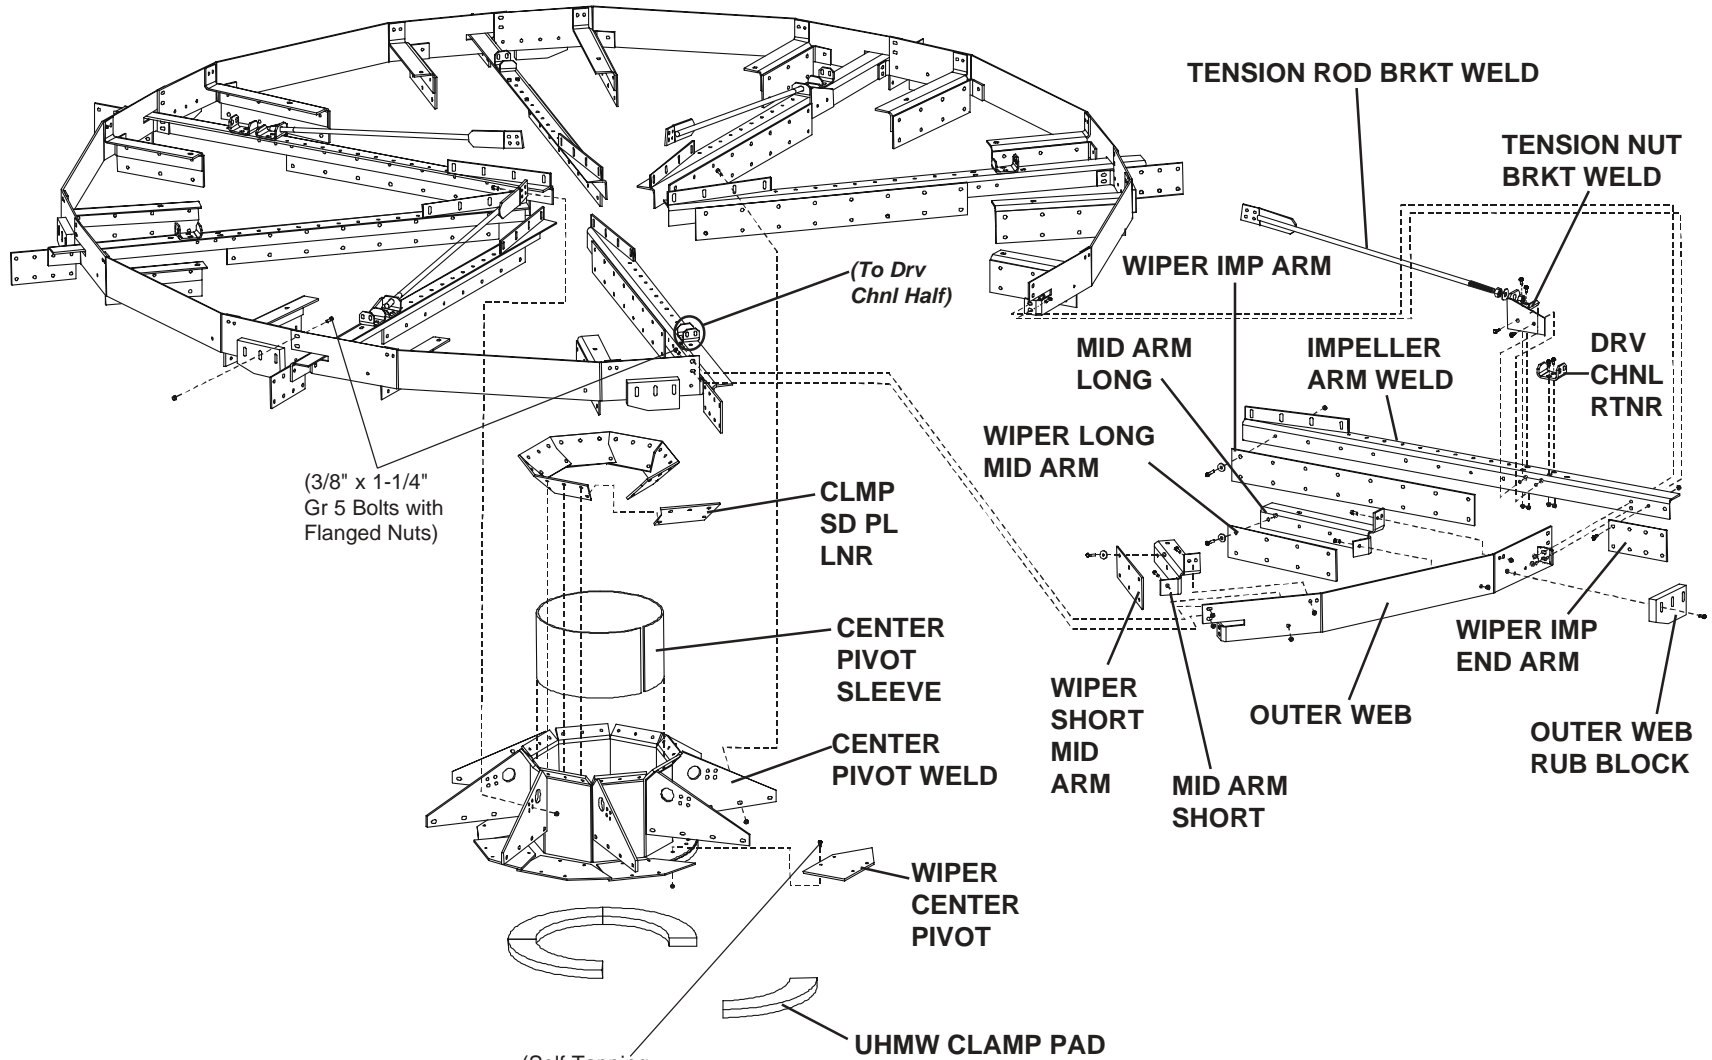

Fig. 9-4
5. The preassembled **IMPELLER ARM WELDMENTS** now fasten to the Center Pivot using the 3/8" x 1-1/2" Gr. 8 Bolts and Flanged Nuts. Provide temporary support for the outer edge of each arm so it remains level during installation. The support should be placed above the Screen Deck Structure, and not on the Screen alone. **The arms with the Tension Nut Brackets should be spaced evenly around the Impeller.** Do not tighten any of the Impeller Assembly until all parts are in place. (See Fig. 9-4 on page 51.)
6. With the Arm supports still in place, set the two **DRV CHNL PARTS** in place. The Drive Channel bolts to the Drive Channel Retainers with two 3/8" x 1-1/4" Gr. 5 Bolts and Flanged Nuts, as well as down through the Impeller Arm with a 3/8" x 1-1/2" Gr. 8 Bolt and Flanged Nut. (See Fig. 9-4)